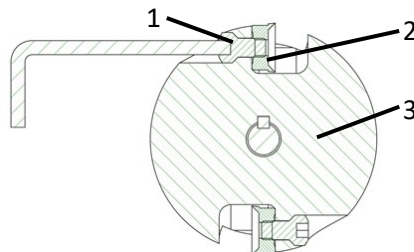

Fig. 16: Replacing knives
- > Loosen the knife screws (1 - Fig. 16) on the milling head (3 - Fig. 16) with a 6 mm Allen key.
- > Replace the circular knives (2 - Fig. 16) or turn them by 180°.